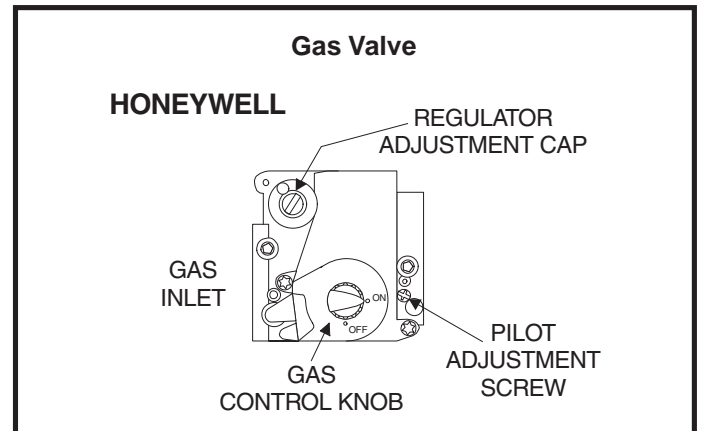

Figure 1
4. Turn the gas valve knob to "ON" position. See Figure 1.